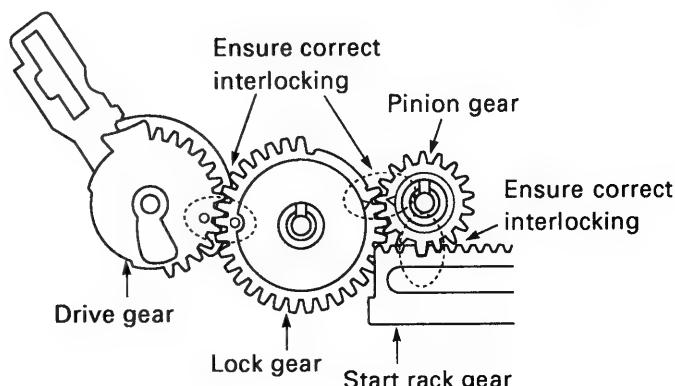

Fig.3-3-2
- 2) Remove the two screws ①.
- 3) Lift up the back of the cassette mechanism assembly ② slightly, and remove the two hooks ③ on the front.
- 5) Check that the two hooks ③ have snapped into the mechanism chassis, and make sure that the two holes ④ in the cassette mechanism assembly are aligned with the two dowels ⑤ on the mechanism chassis.
- 6) Make sure that the big tooth on the pinion gear of the cassette mechanism assembly slots properly into the deepest gap in the start rack gear, as shown in Fig.3-3-2.
- 7) When fitting the two screws ①, use the torque gauge screwdriver (VHJ-0014). Give the screws a tightening torque of 5 kg/cm.
2. Apply grease (VHJ-0100) to the gear mounting shafts, all the gear teeth, and the cam part of the drive gear ⑥.
3. Ensure that the drive gear, the lock gear and the pinion gear interlock correctly, as shown in Fig.3-3-2.
4. Make sure the clamps ① and ② snap in to the gear holder ③.